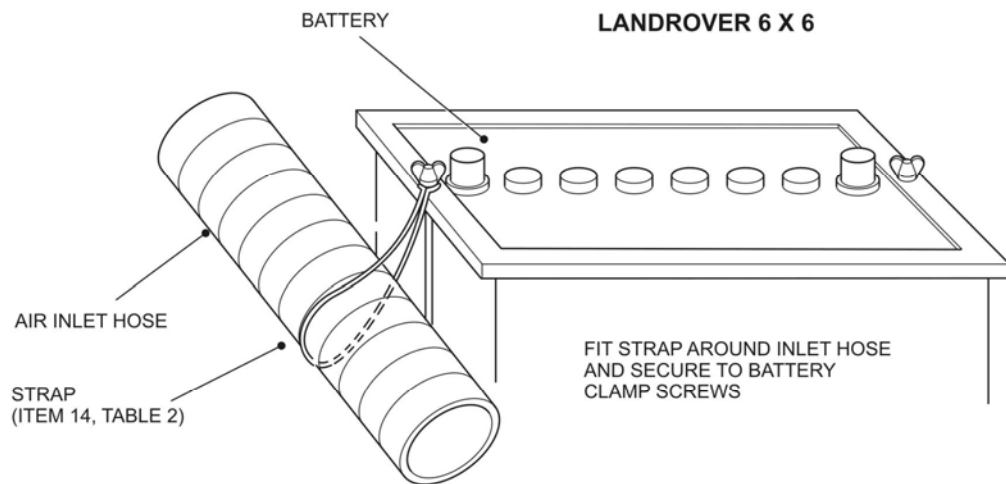

Figure 3 Air Inlet Hose Clamp (6X6)
- aa. **6X6 Variant.** Fit the securing strap (Item 14) to the inlet hose and secure it to the battery hold-down clamp screws (Figure 3).